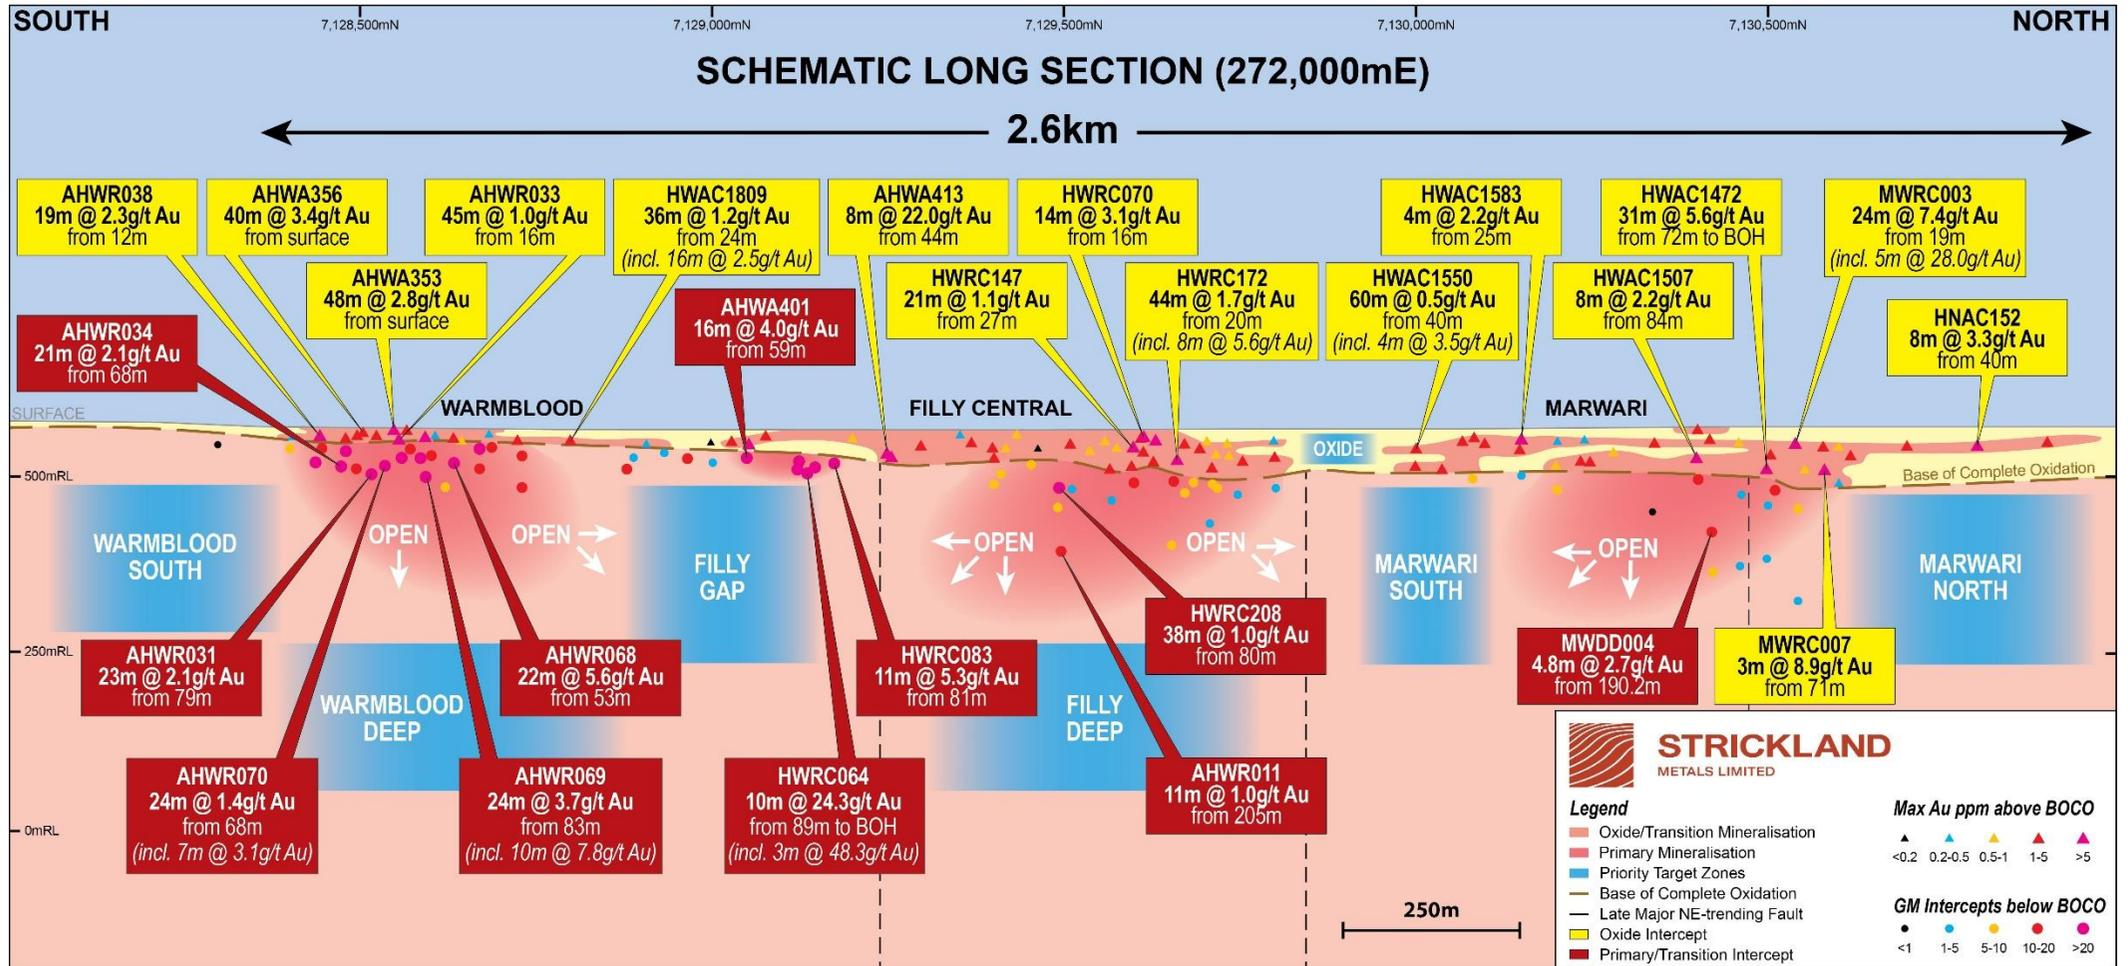

Figure 1: Long Section of the newly delineated Marwari-Filly-Warmblood 2.6km gold corridor
- Work completed over the Christmas break has delineated an impressive 2.6km coherent corridor of gold mineralisation extending from Marwari to Warmblood (see Figure 1)
Andrew Bray, Chief Executive Officer, said: "Substantial work has occurred over the Christmas break digesting the large drilling programs Strickland undertook in the second half of 2023. The initial part of this work focused on understanding the Marwari trend (in light of the first batch of diamond and RC results received in December 2023, and the recently received remaining results listed in Appendix A) and its southern extensions. Pleasingly, the Company has now confidently delineated a coherent gold corridor extending 2.6km south from Marwari to the Warmblood prospect, where Strickland announced a new aircore result on 20 December 2023, HWAC1809: 36m @ 1.2g/t Au from 24m (including 16m @ 2.5g/t Au). This corridor remains entirely untested in several large portions along strike, and largely untested at depth for almost the entirety of the prospect area (see Figure 1). For example, only 7% of drilling has occurred below 150m, and only 3% below 200m depth.
What this means is that the remainder of the 2.6km corridor represents a very compelling exploration target (see Figure 1). Based on the highly favourable geology, intense alteration, structures, and impressive results to date, Strickland remains very confident in the potential for this corridor to yield significant additional mineralisation. It represents an ideal geological setup for a major gold discovery. High priority target areas include regions north and south of the NE-structure that dissects Marwari, including below an oxide intercept of 8m @ 3.3g/t Au from 40m (HNAC152) to the north and 60m @ 0.5g/t Au from 40m (HWAC1550) to the south.
Following completion of aircore, RC and diamond drilling in 2023, Strickland has mapped out the extents of oxide mineralisation across the Horse Well region. One of the key successes of this program was firstly discovering the Marwari prospect, then successfully connecting it to the prospects at Warmblood and Filly, thereby defining a coherent 2.6km gold corridor in which large portions remains untested, including being almost entirely untested at depth (see Figure 1).